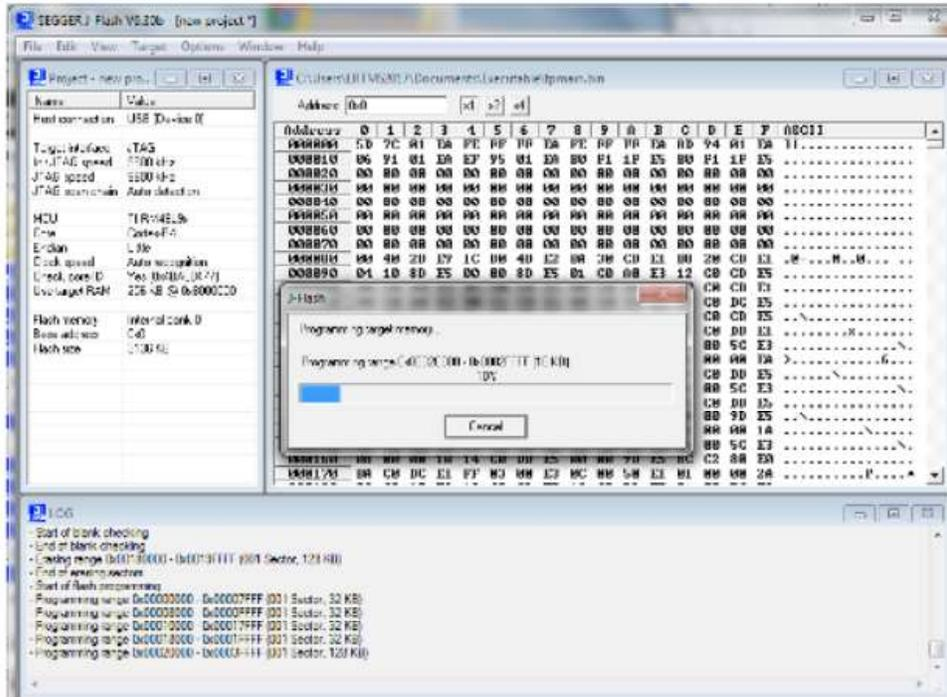

Figure 14: Progress bar [Program\_load]
15. The pop-up “J-Flash” appears with a progress bar. The software is loaded on the Hercules processor (Figure 14, STMA-69068);